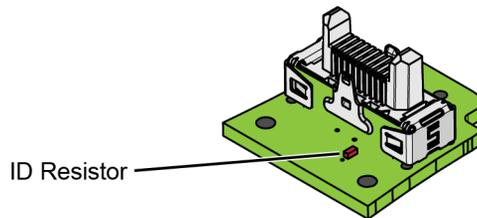

Figure 26 Location of ID Resistor (R2)
- 4 On the reverse side of the PC board, locate ID resistor, **R2**, as shown in Figure 26.